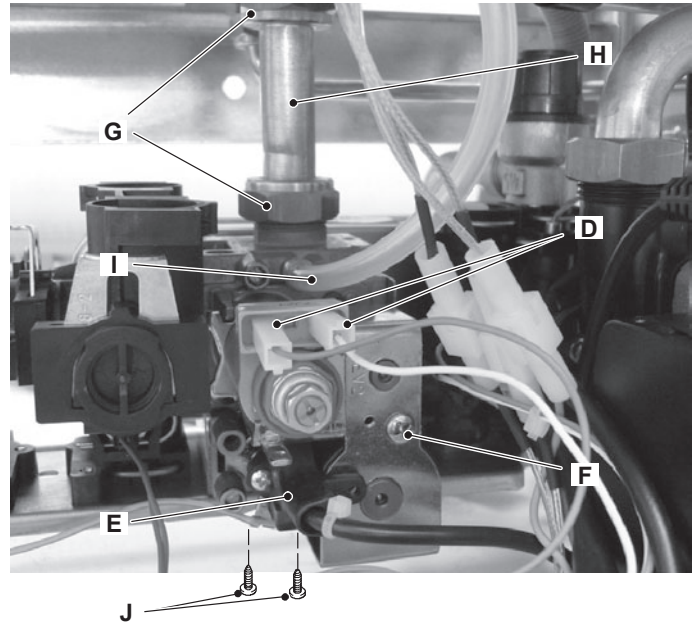

Figure 11.5
- 2 Disconnect the connectors D (Figure 11.5) from the modulating operator and measure the electrical resistance of the coil. Its electrical resistance value must be approx. 80 Ω*.
- 2 Disconnect the electrical connector E (Figure 11.5).
- 2 Disconnect the connector E (Figure 11.5).
- 2 Disconnect the connectors D and E (Figure 11.5).